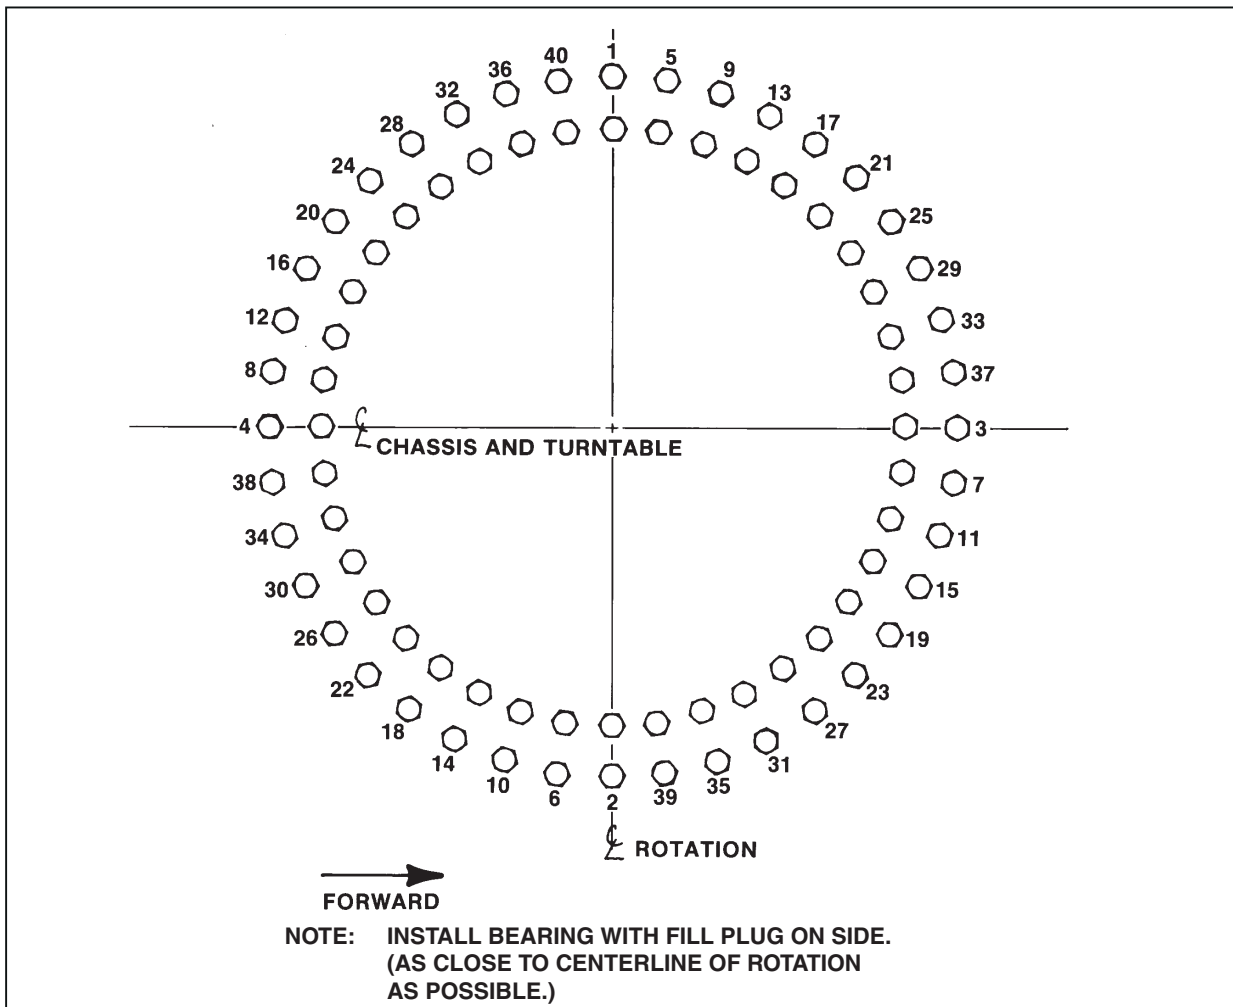

Figure 3-6. Swing Bearing Bolt Torquing Sequence
- d. Following the Torque Sequence diagram shown in Figure 3-6., tighten the bolts to an initial torque of 180 ft. lbs. (244 Nm). Then following the same sequence tighten the bolts to a final torque of 240 ft. lbs. (325 Nm).
- i. Following the Torque Sequence diagram shown in Figure 3-6., Swing Bearing Bolt Torquing Sequence, tighten the bolts to an initial torque of 180 ft. lbs. (244 Nm). Then following the same sequence tighten the bolts to a final torque of 240 ft. lbs. (325 Nm).
3. Swing Bearing Torquing Sequence, Figure 3-6., Swing Bearing Bolt Torquing Sequence